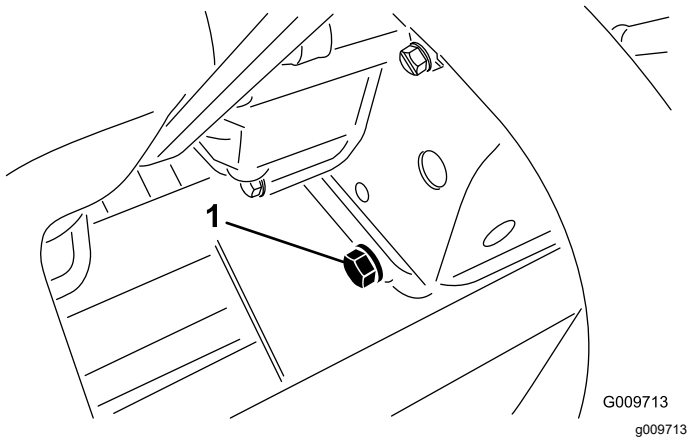

Figure 77
- Remove the drain plug (Figure 77) and let the oil flow into a drain pan.